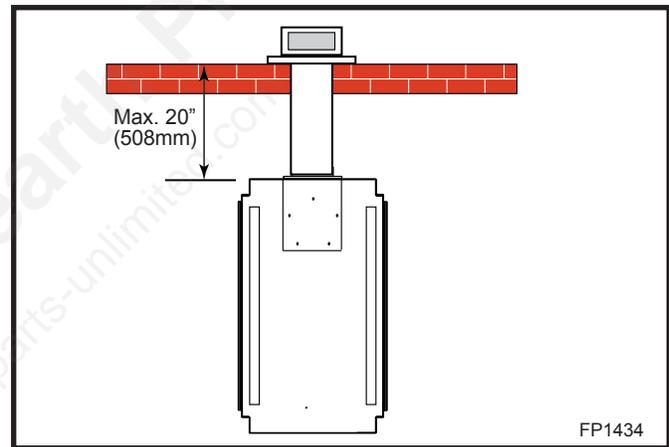

Fig. 17 Rear vent application.
- Specific rear vent starter kits must be used in these applications (see 'venting components'). The appliance has been approved for installation flat against a rear wall. (Fig. 17)
- Maximum horizontal distance between the rear of the appliance and the outside face of the rear wall is 20" (508 mm). (Fig. 17)